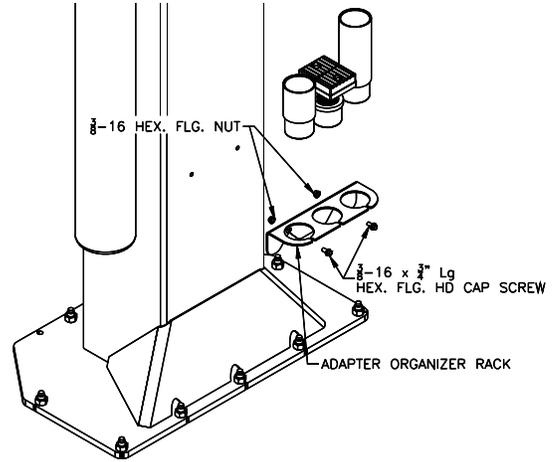

Fig. 16-Adapter Rack Installation
31) Locate the two pre-drilled holes on the back of each column 19" up from the top of the base plate and tap 5/16"-18. Center the adapter rack and attach with 3/8"-16 x 3/4" Lg hex flange cap screw and 3/8"-16 hex flange nut (**Fig. 16**).